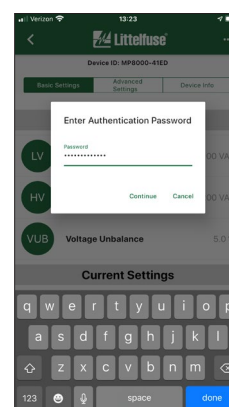

Figure 5
- d. A popup box will appear. Enter the password for the unit. The password is located on product label. (See Figure 5)